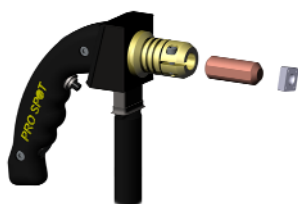

Figure 6.15
4. Fit Single-Sided gun with the Shrink Electrode (fig. 6.15).